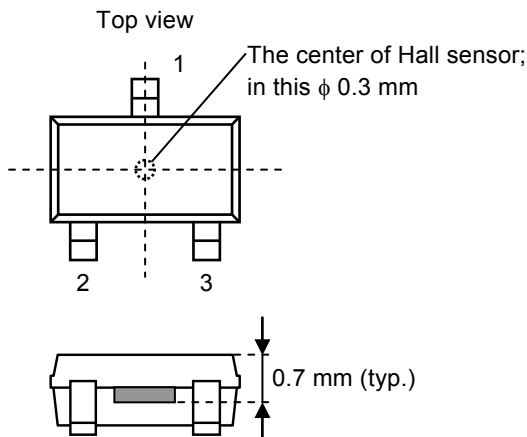
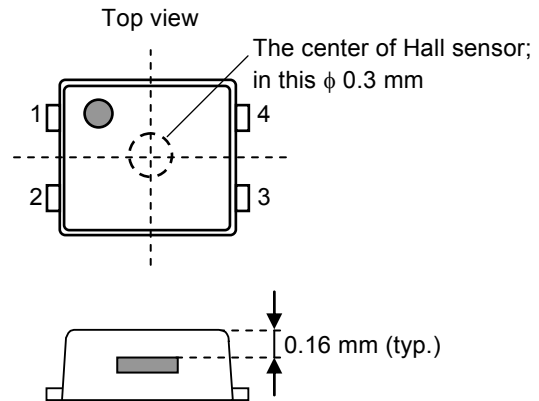

Figure 14
Figure 15
**Figure 14** and **Figure 15** show the position of Hall sensor.